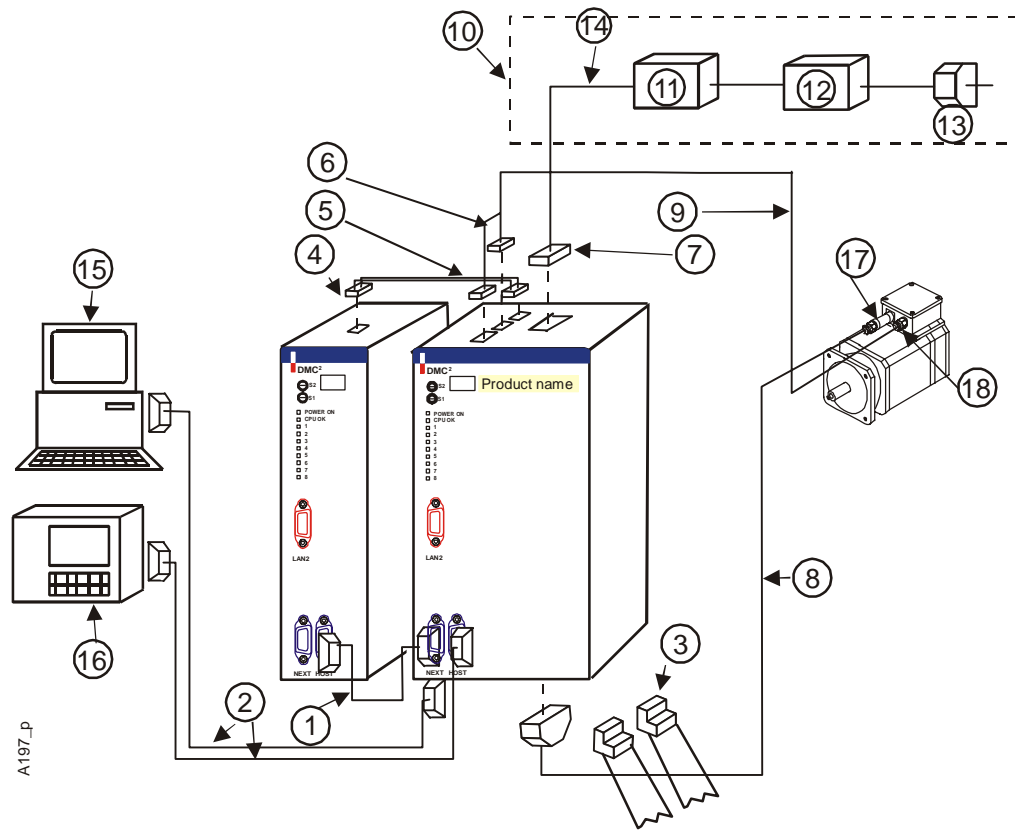

Figure 7. Example of PDS with an AC supplied DMC2 unit and a DC supplied unit.
- One AC supplied DMC2 unit supplying one or more DC supplied DMC2 unit(s) with a DC bus interface. See Figure 7.